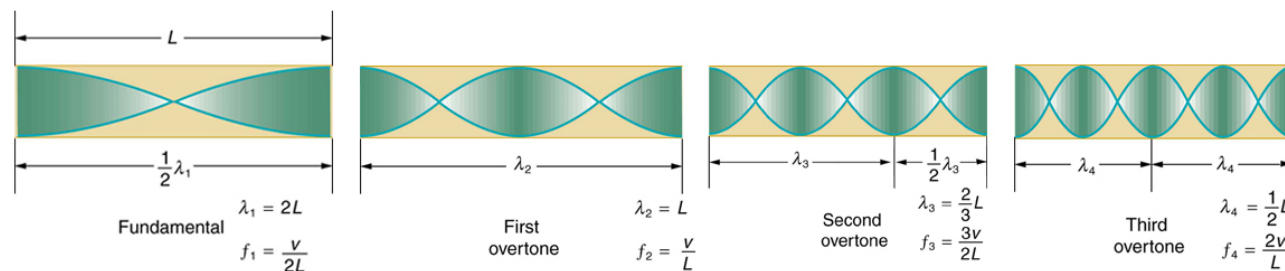

Figure 2: Lowest four resonant frequencies for an open pipe.
Sound from the sound source (tuning fork) travels down the tube and reflects back from the opposite end which is *open*. At resonance, both ends must be points of maximum disturbance called *antinodes* (*A*). There must be at least one point of minimum disturbance between antinodes, called a *node* (*N*), and hence the distance between the ends of the tube must be at least $\lambda/2$. But there might be two, three, or more nodes between the ends of the tube. The first four resonant conditions for an open tube of length L are shown in Figure 2 (below). The resonance conditions are also summarized.
6. From Figure 2, the overall length, L , of the resonance tube should equal $\lambda_1/2$ for the fundamental resonant frequency – i.e., $\lambda_1 = 2L$ for f_1 . Also, the speed of sound in air should be $v_s = f_1 \lambda_1$. Use the data you have recorded to find the speed of sound in air in the lab on this occasion and compare to the value expected for this ambient temperature.